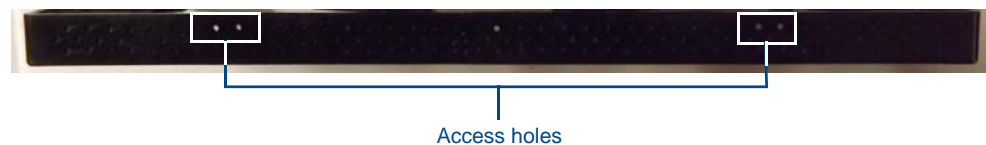

FIG. 21 Location of access holes on MXD-1000 molding
2. With a stout, strong point (a push pin or straightened paperclip, for example), carefully press into the access holes in either end of the molding (FIG. 21) until the snap is disconnected. To facilitate the disconnection, grasp the bottom of the panel (Landscape) or right side (Portrait) and pull gently outward until the side of the panel is free of the snap..